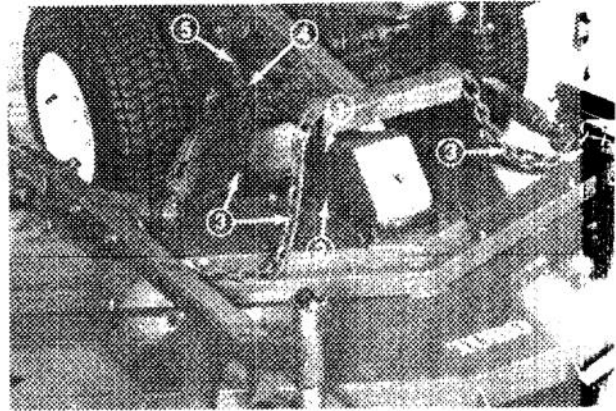

Figure 12
2. Mount PTO shield over input shaft and onto gear box mounting plate with two self-tapping screws (Fig. 12).
3. Attach lift chains to lift arm and cutting unit (Fig. 12) with six shackles, shackle pins (3/8 x 1-1/2 in.) (38 mm) and cotter pins (1/8 x 3/4 in.) (19 mm). Adjust chain length so both become tight at the same time when lifting lift arm.
4. Connect ends of tension spring between fourth link of rear chain and eye of cotter pin that holds cylinder pin in place (Fig. 12). Adjust length of chain so rear caster wheels are off the ground in transport position.